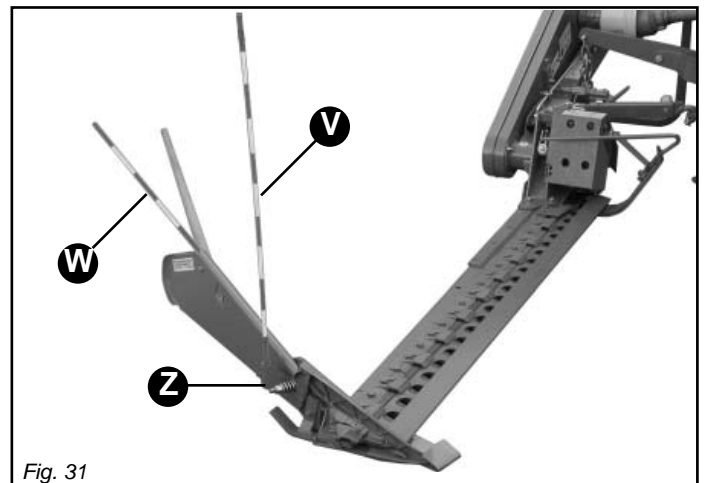

Fig. 31
The hazard bar has been included with the equipment of the machine for safety reasons, to indicate the space occupied by the mower at work. For working, position the hazard bar in position (V) (Figure 31) and lock it in place with the screw (Z). For transport put it in position (W).